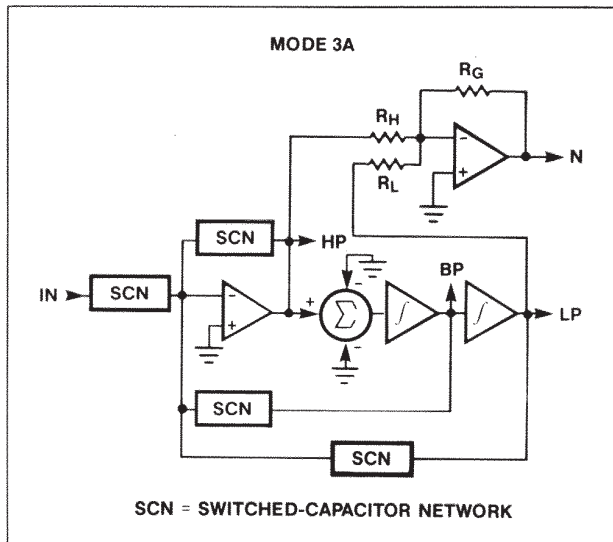

Figure 7. Filter Mode 3A: Second-Order Bandpass, Lowpass, Highpass and Notch. For elliptic LP, BP, HP and Notch, the N output is used.
**MODE 3A** (Figure 7) uses a separate op amp to sum the highpass and lowpass outputs of Mode 3,